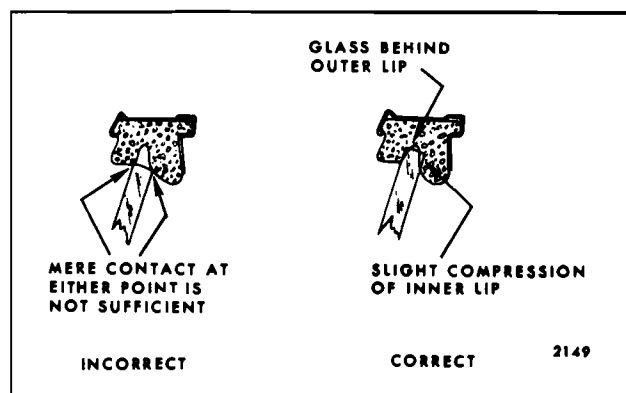

Fig. 6-98—Window to Side Roof Rail Weatherstrip Alignment
- b. Adjust stops "1" and "2" up or down for proper glass to side roof rail weatherstrip contact (Figure 6-98).